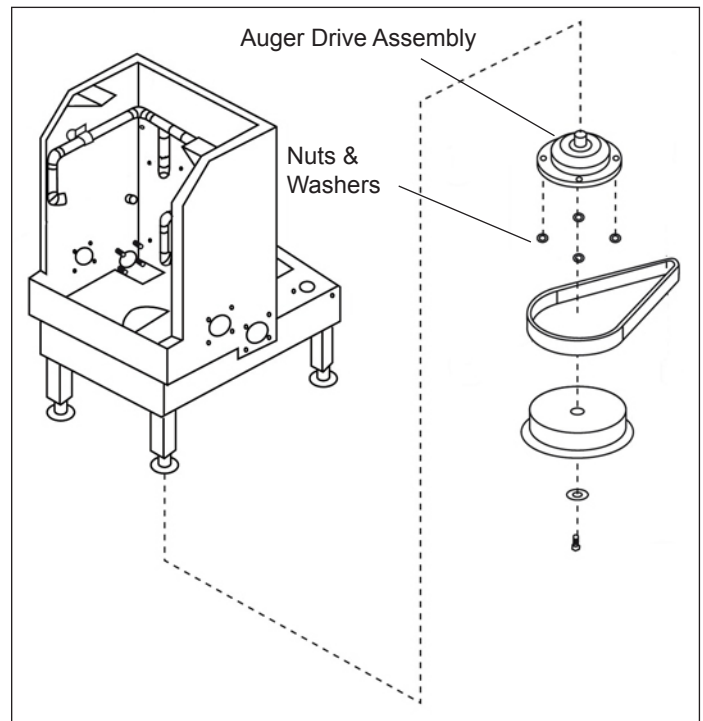
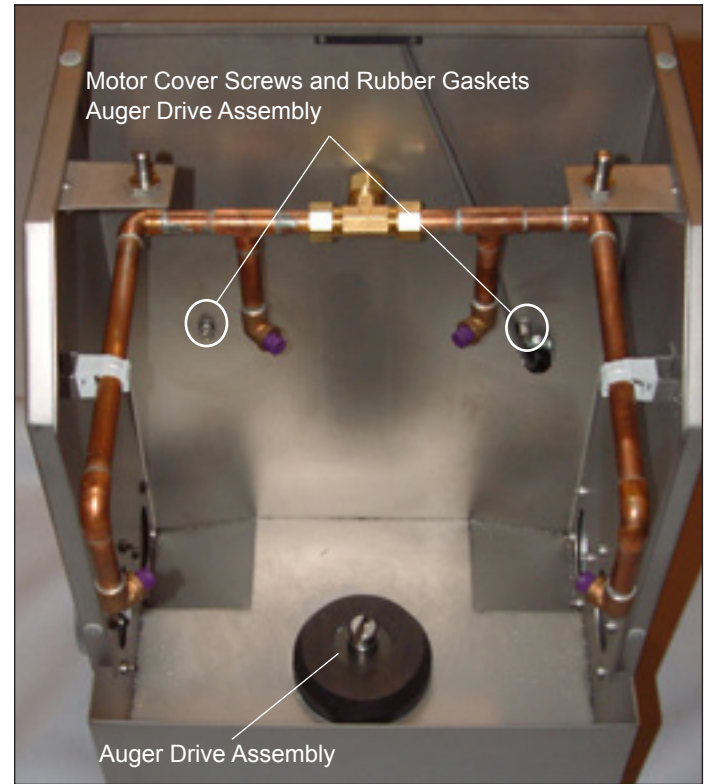

Figure 12. Auger Drive
Figure 13. Removing Auger Drive
6. Remove nuts and washers securing auger drive (Figure 12). Using a rawhide, wooden or rubber mallet, tap downward on hub of auger drive from inside of cabinet (Figure 13).
9. Install auger drive assembly with nuts and washers (Figure 12).
5. The motor cover is secured to the cabinet with eight (8) screws. Remove two (2) screws with rubber gaskets accessed from inside the cabinet (Figure 13). Remove the six (6) outer screws securing cover to cabinet and remove motor cover.
22. Install motor enclosure cover with outer six (6) hex screws and washers and two (2) inner hex screws and rubber gaskets (Figure 13).